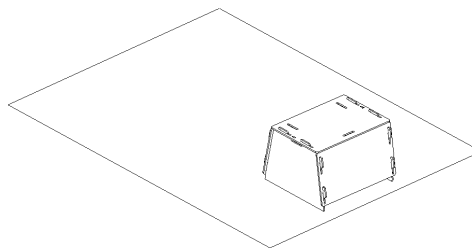

Figure 11.6.: Scanner stand resting on a pattern.
2. Align the scanner stand with the rectangle marked on the pattern, paying close attention to the orientation of the slots in the stand cover (see Figure 11.6.).